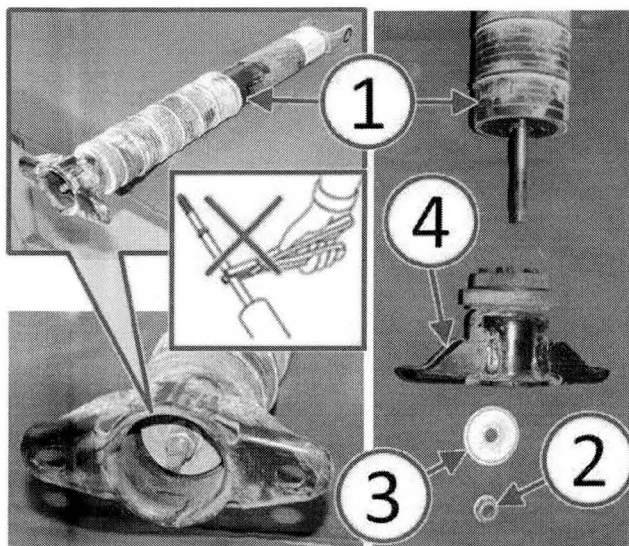

Fig. 1 Shock Upper Mount Disassembly
3. Use the 6 mm oval/double-D shock absorber shaft socket tool to hold the shock absorber shaft from turning, while using the 15 mm shock absorber nut socket tool to remove the shock upper mount nut (2) (Fig. 1).
4. Remove the washer (3) below the nut and remove the shock upper mount (4) (Fig. 1).